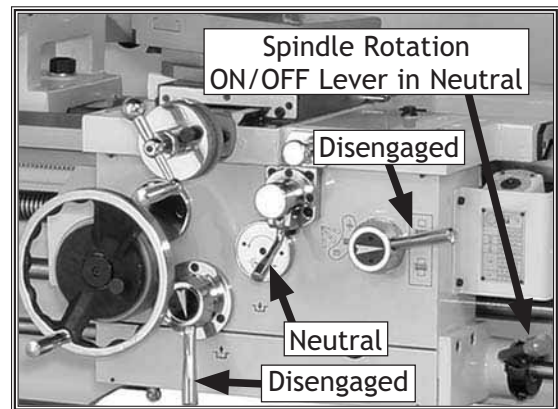

Figure 18. Apron in neutral and disengaged.
3. Disengage the apron as shown in Figure 18.